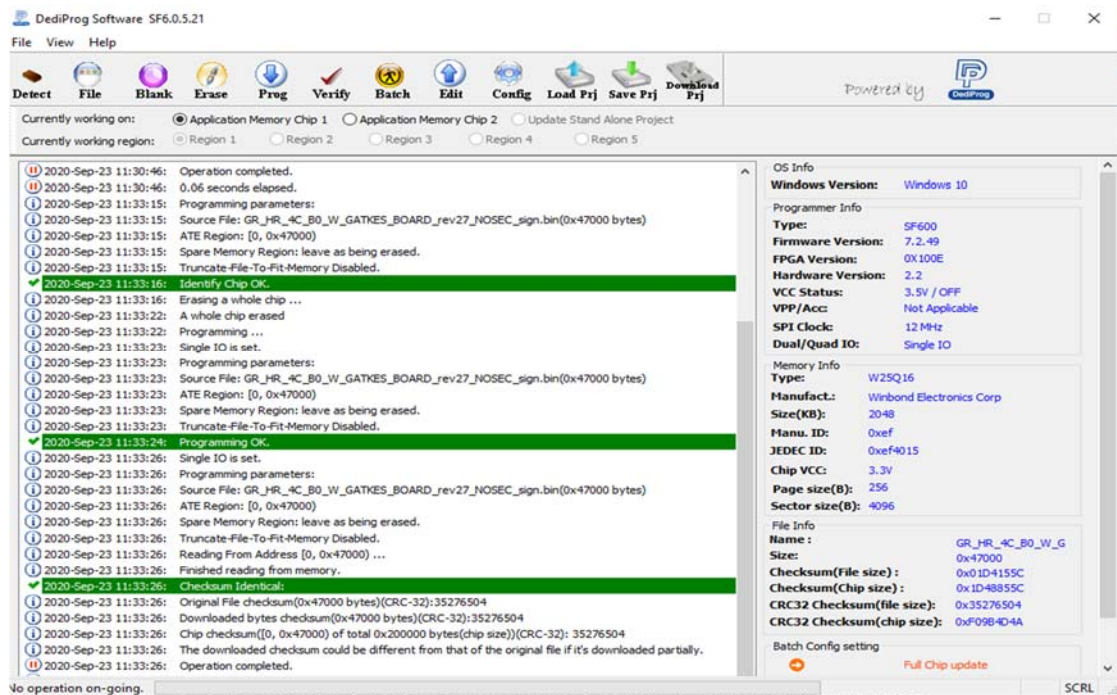

Figure 19: All stages are PASS
- Step 5: Wait for all stages are PASS (see Figure 19) and Operation Completed.